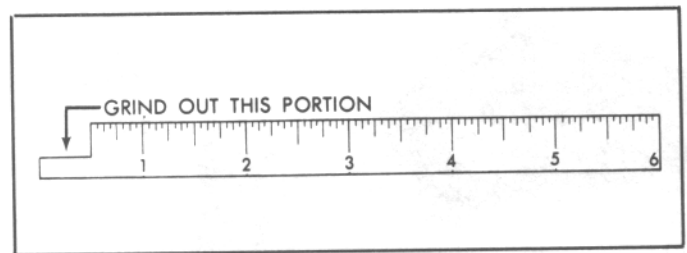
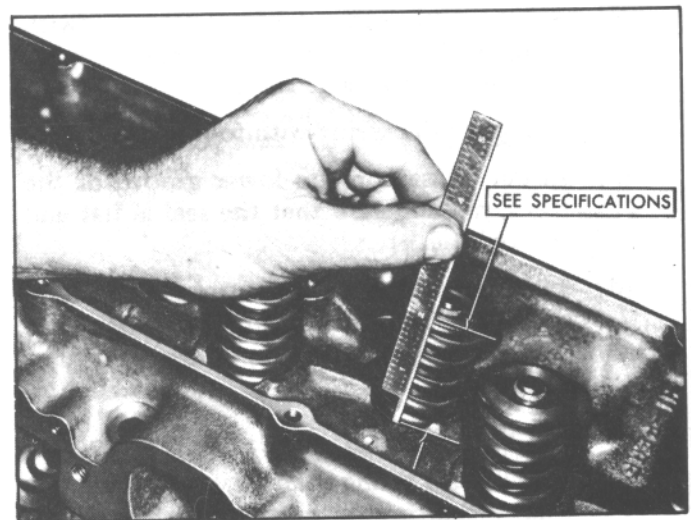

Fig. 111. Cutaway Scale
Fig. 112. Measuring Valve Spring Installed Height
5. Check the installed height of the valve springs, using a narrow thin scale. A cutaway scale will help (Fig. 111). Measure from the top of the shim or the spring seat to the top of the valve spring or valve spring shield (Fig. 112). If this is found to exceed the specific height, install a valve spring seat shim approximately 1/16" thick. At no time should the spring be shimmed to give an installed height under the minimum specified.